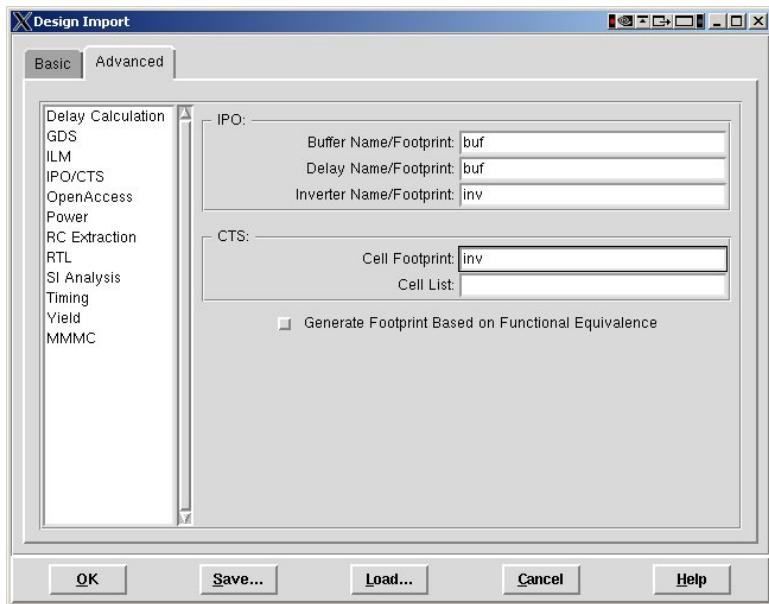

Figure 10.6: **Design Import IPO/CTS** tab
**IPO/CTS:** This tab provides information for the **IPO** (In Place Optimization) and **CTS** (Clock Tree Synthesis) procedures by letting **SOC Encounter** know which buffer and inverter cells it can use when optimizing things. Enter the name of the footprints for buffer, delay, inverter, and CTS cells. Leave any blank that you don't have. I'm entering **inv** as the footprint for delay, inverter, and CTS, and leaving buffer blank as shown in Figure 10.6. Your library may be different.